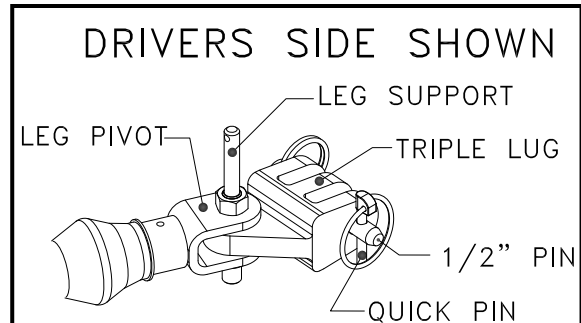

Figure 4
3. Partially extend one leg. The legs are held in with an internal "soft" latch. Pulling out on the leg will disengage this latch. Place the triple lug between the attachment tabs on the baseplate, and secure with the 1/2" pin and quick pin. See figure 4. Place the 1/2" pin and quick pin so the quick pin is away from any object that could open it and allow it to disengage. Install remaining leg in a similar manner.
Refer to figures 4, 5 and 6 for Steps 7, 8 and 9.
3. Partially extend one leg. Place the triple lug between the attachment tabs on the baseplate, and secure with the 1/2" pin and quick pin. See Figure 4. Repeat for the other leg.